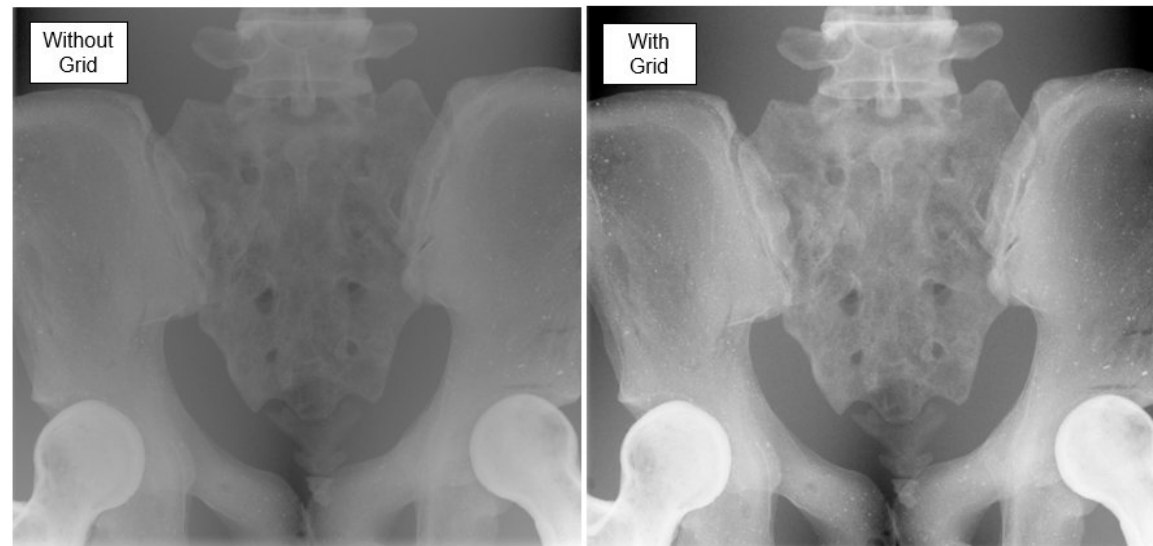

Fig. 16 – Contrast improvement due to the grid
- The total transmission (T_t) of the grid depends on T_p , T_s and the scatter fraction (SF).
- A grid with a higher grid ratio has a lower T_s , due to a more limited transmission angle, but also a lower T_p , and a high contrast improvement factor (Fig. 16).